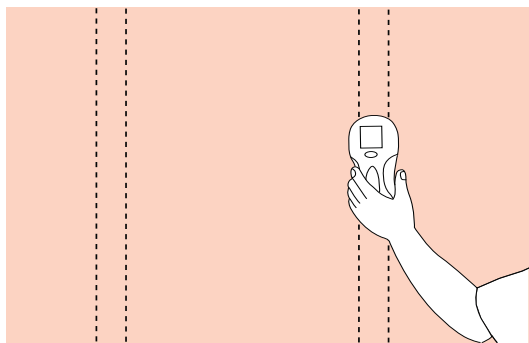

Figure 2.
1. Use a stud locator instrument or other approach to mark the location of studs and other items that may obstruct the installation of the speaker. See Figure 2 below.